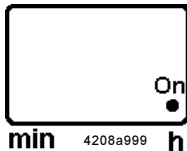

Fig. 20 - Green decimal point (pause time)
- Pump "On" is indicated on the display by an **illuminated decimal point** (pause time is running) (fig. 20).